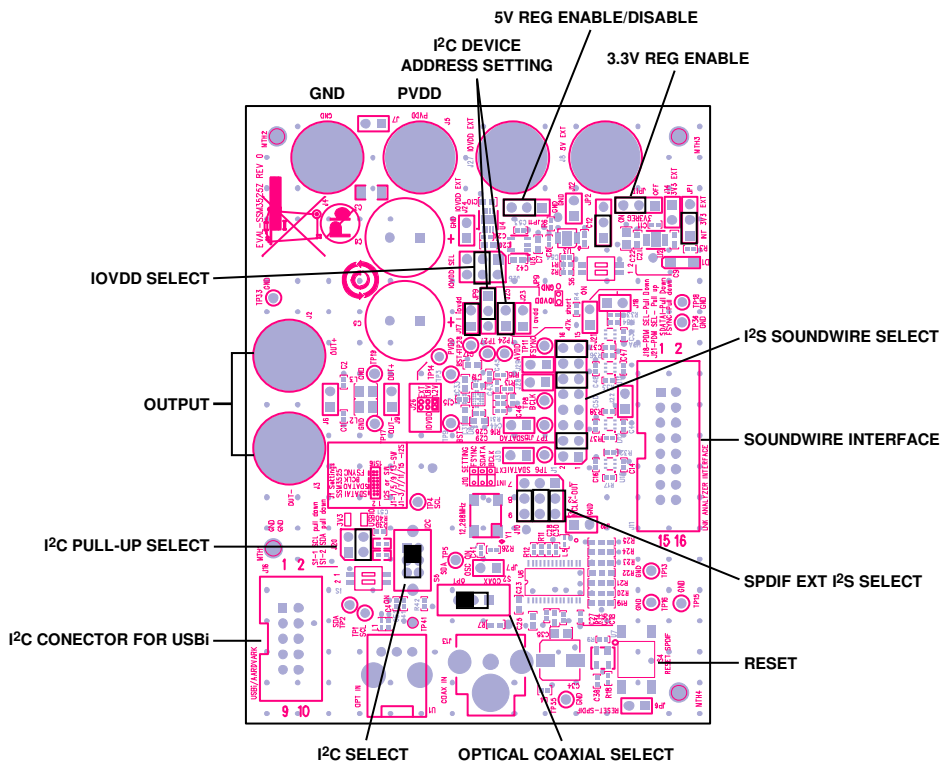

Figure 3. Board Settings for I²C to I²S Mode
10. Ensure that the jumpers are inserted across all three rows of JP10 to establish direct connection of the digital audio signal lines to the inputs of the **SSM3525**. See Figure 3 for setting the jumpers and switches.